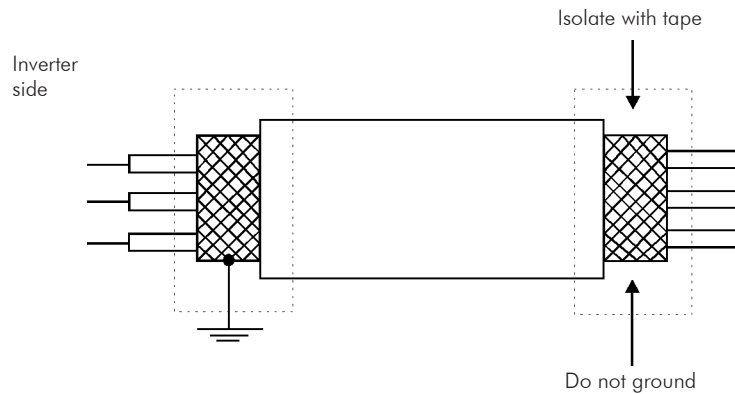
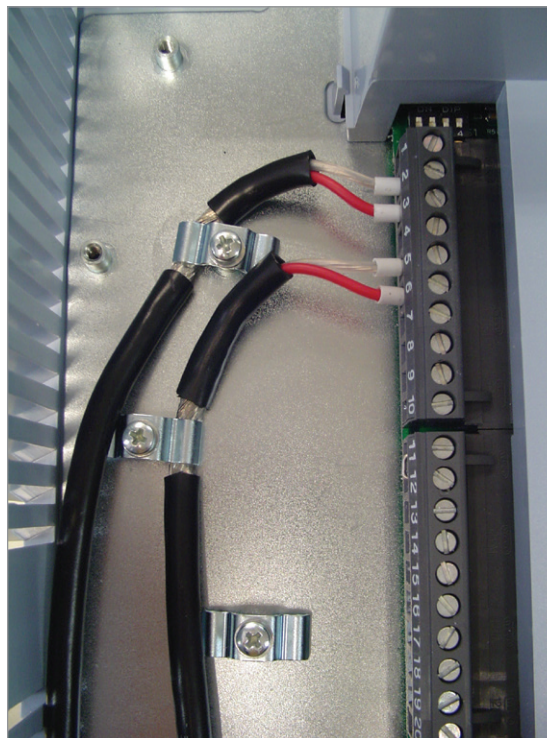

Figure 3.19 - Shield connection
Figure 3.20 - Example of shield connection for the control wiring
- The adequate connection of the cable shield is shown in Figure 3.19 on page 3-31 and Figure 3.20 on page 3-31 shows how to connect the cable shield to the ground.
- ☑ Use shielded cables connected to ground only on inverter side. Use the provided metallic pieces as shown on Figure 3.20 on page 3-31.